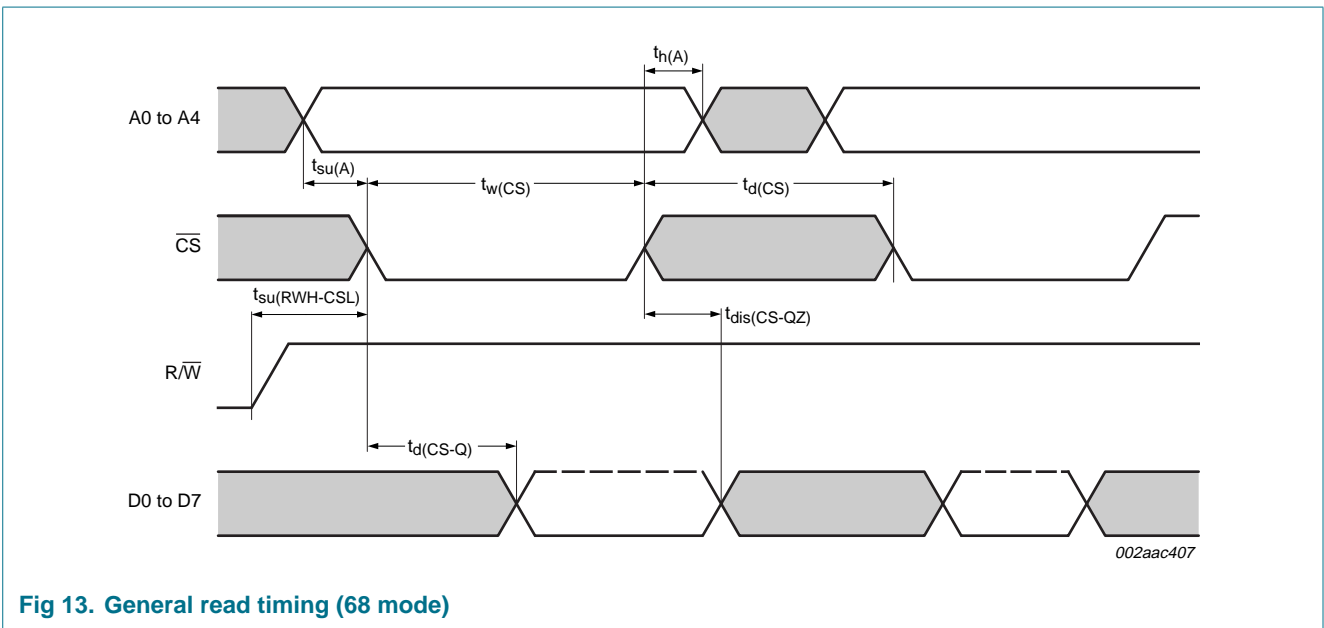

Fig 13. General read timing (68 mode)
- (2)  $\overline{\text{CS}}$  timing during a read cycle. See Figure 13.